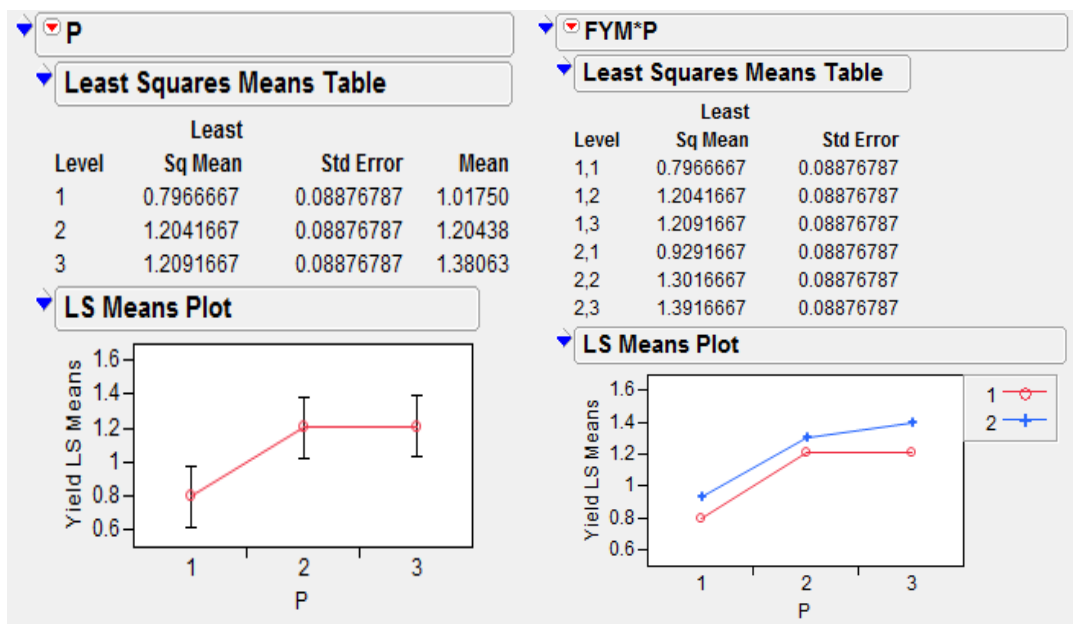

Figure 5.8.3: LSMeans plot for main effect P and interaction effect FYM*P
5. Click the red triangle of P main effect and FYM*P interaction effect and select **LSMeans plot**. See Figure 5.8.3 for the output.